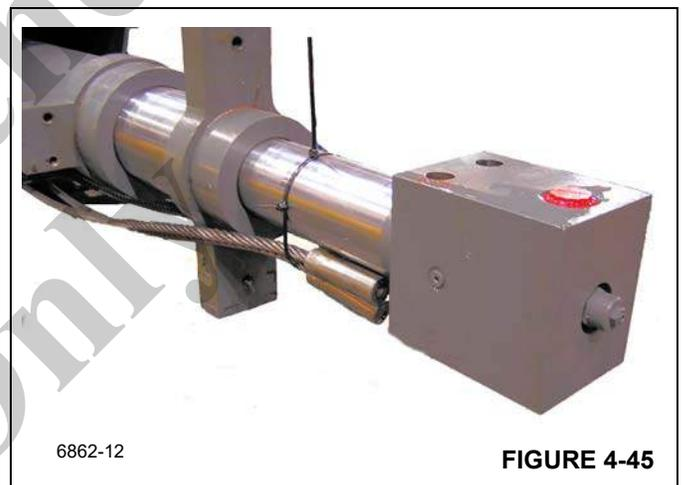

FIGURE 4-45
- 15. Turn the cylinder rod mounting lug ends (Figure 4-45) so that they are aligned vertically to clear the mounting brackets in the outer mid section.
19. Temporarily tie extend cables to the Telescope Cylinder to maintain proper cable alignment during assembly (Figure 4-45).